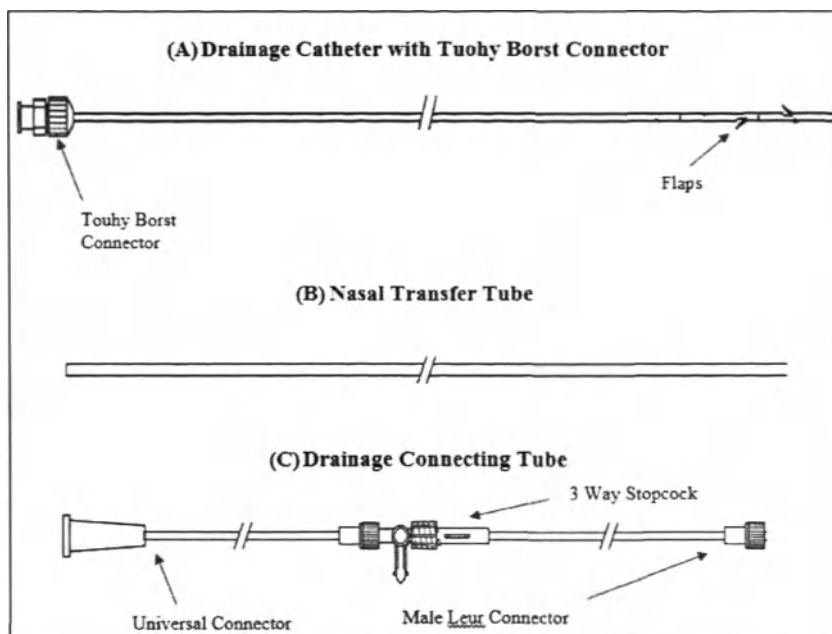

Figure 1: Nasal Pancreatic Drainage Set
The Nasal Pancreatic Drainage Sets are supplied with either a 5 French or a 7 French drainage catheter. The drainage catheter, as shown in (A) of Figure 1, is placed endoscopically and can be visualised endoscopically and using fluoroscopy during the procedure. Upon placement, the distal end of the drainage catheter is located in the pancreatic duct and the proximal end has exited through the nostril and is external to the body. The drainage catheter has flaps, side ports and a tuohy-borst connector. The drainage catheter flaps are located at the distal end of the catheter. The flaps help prevent migration thereby helping the drainage catheter to remain in the desired position.
The nasal transfer tube as shown in (B) of Figure 1, aids in getting the proximal end of the drainage catheter to exit through the nose by providing a passage. The drainage catheter is threaded through the nasal transfer tube until it exits the nasal end. The nasal transfer tube is removed after the proximal section of the drainage catheter exits through the nostril.